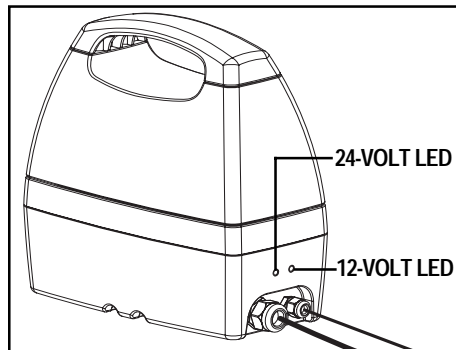

Figure 8. Battery Pack LEDs
5. Monitor the LEDs on the side of the charger base for charging status. **See figure 8.**
The LEDs on the side of the battery pack (see figure 8) indicate charging status. (See the table below.) Each battery has its own LED. The right LED indicates the charging status of the 12-volt lift battery. The left LED indicates the charging status of the 24-volt mobility device.